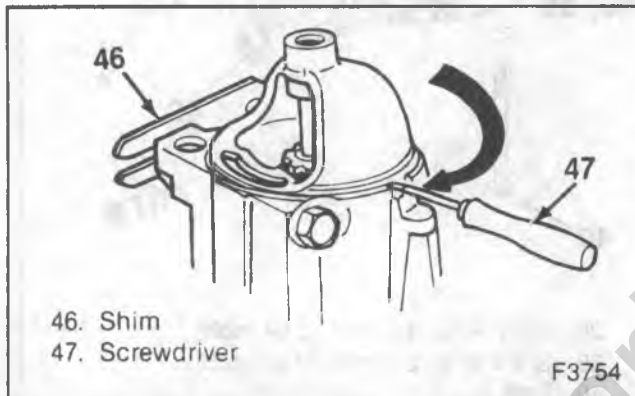

Figure 12—Meshing Starter and Flywheel Teeth
5. Insert a screwdriver in the small hole in the bottom of the starter (shown by the arrow in figure 12) and move the starter pinion and clutch assem-